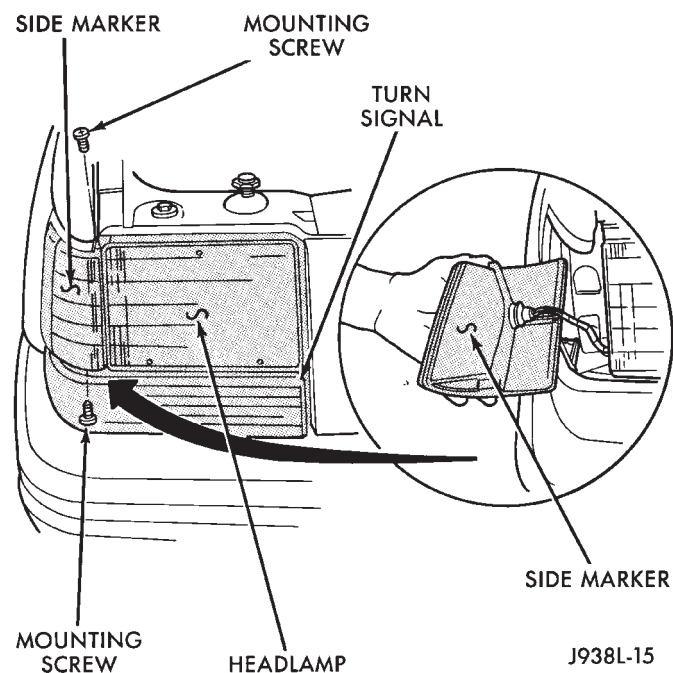

Fig. 4 Side Marker Lamp Removal
(6) Open hood.
(7) Remove side marker lamp upper screw located below radiator side closure panel (Fig. 4).